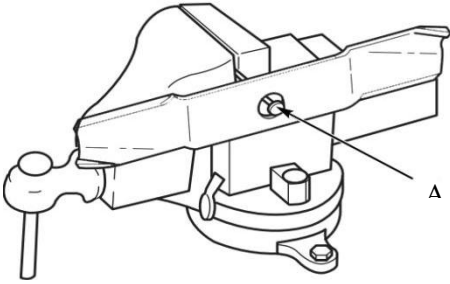

Fig.13
- Refer to Fig. 13. Put the mower blade on a nail (A) in a vise and turn the mower blade to the horizontal position.